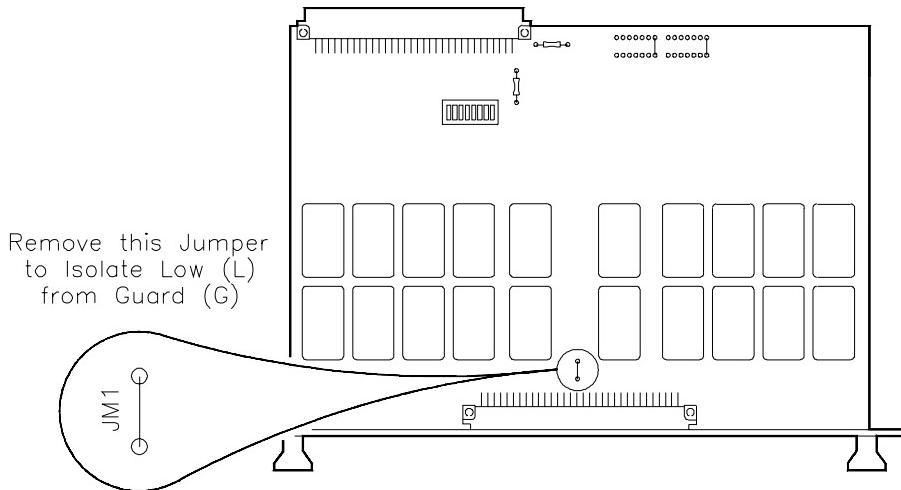

Figure 2-4. Removing the Isolation Jumper
Isolation jumper JM1 connects the Low (L) and Guard (G) commons to each other. To minimize errors caused by lead resistance in the low lines, you may wish to remove the jumper. Use Figure 2-4 to locate jumper.
new jumpers in the new priority location (Figure 2-4 shows a priority change from 1 to 7). Set the interrupt priority level to the interrupt handler level of the module's commander. The E1300/E1301 commander always handles all interrupt levels. The E1405/E1406 and the E1499A commander's default is to handle interrupt level 1, however, they may be configured to handle any combination of interrupt levels.